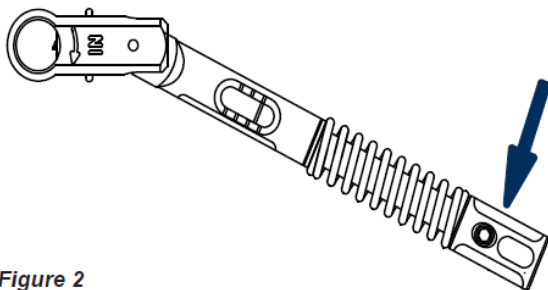

Figure 2
- The pressure point for accurate torque release is only on the handle of the adjusting nut (see arrow in Figure 2).